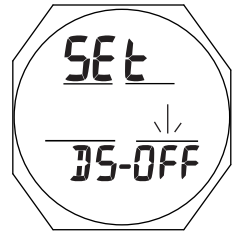

Fig. 49 - SET DEEP STOP
Set Deep Stop (DS), information includes (Fig. 49):